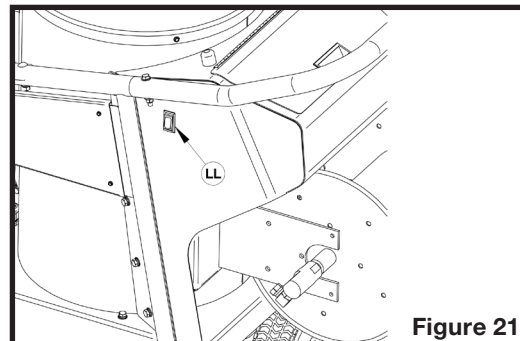

Figure 21
1. If the machine has been used for hot water pressure washing or for weed killing, turn off the burner switch (LL on figure 21).